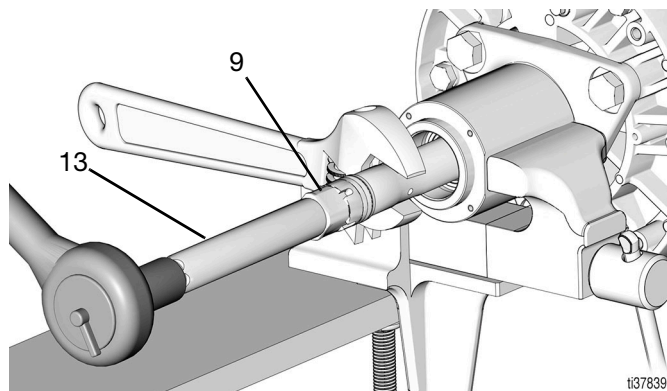

FIG. 27
- Reinstall the fluid piston (9) and the connecting rod (13) using one wrench on the displacement rod flat and a 15/16 in. socket on the connecting rod (13) and then tighten (torque 140 - 160 ft-lb/189.8 - 216.9 N•m) (FIG. 27).